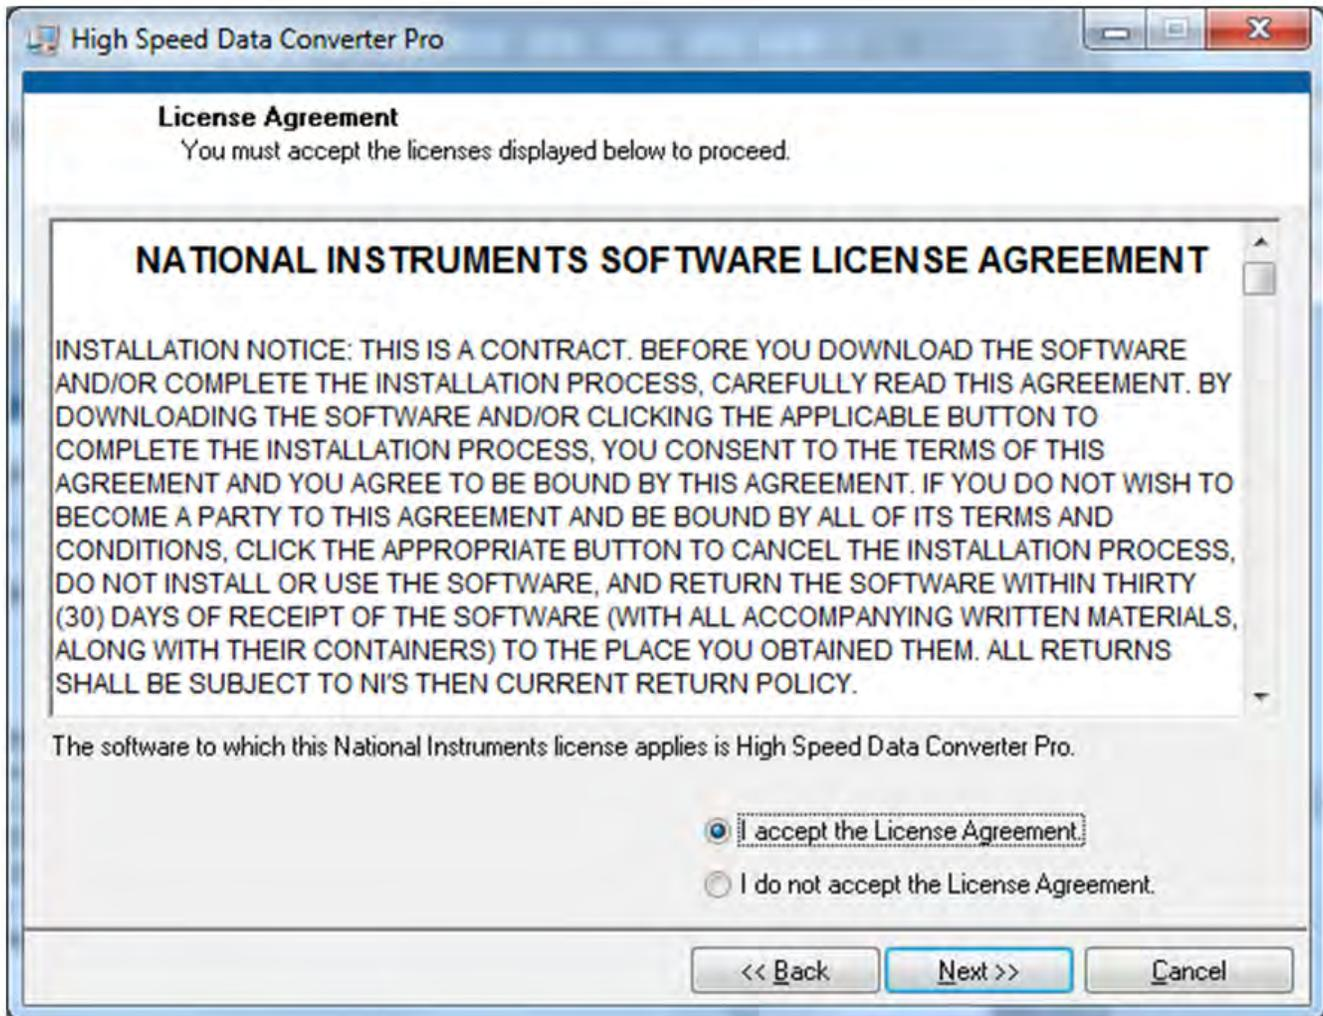

Figure 33. HSDCPro Install (NI License Agreement)
- Read the License Agreement from National Instruments and select *I accept the License Agreement* and press the *Next* button as shown in Figure 33.